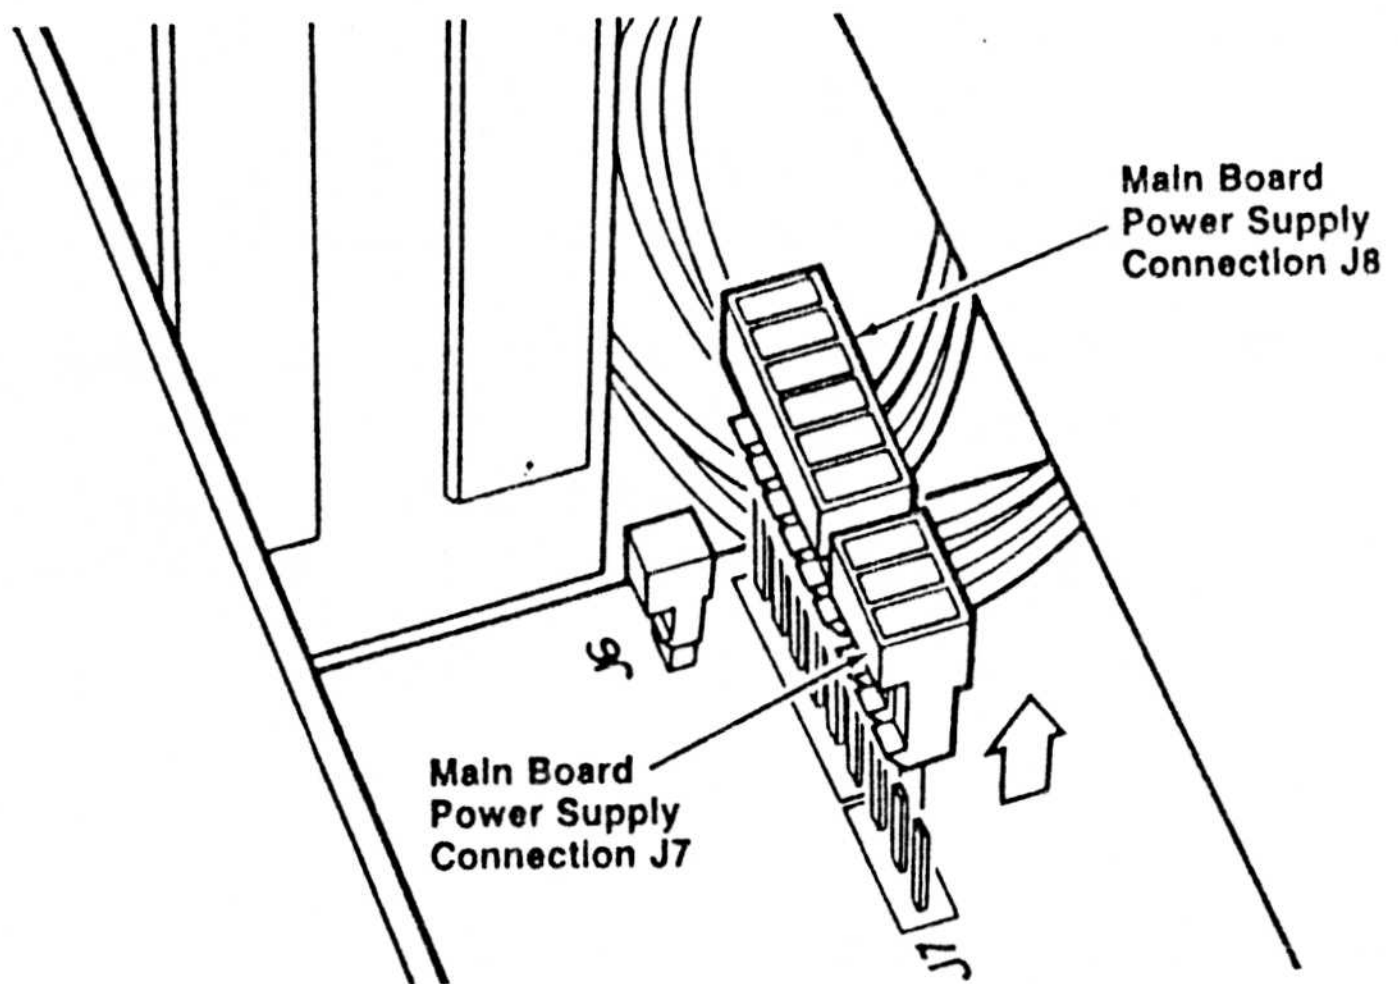

FIGURE 2: MAIN BOARD POWER SUPPLY CONNECTION
- STEP 7** Carefully reach down into the expansion board enclosure and unplug the DC power supply connectors from the main board. Refer to Figure 2.
- STEP 20** Reconnect the power supply connectors to the main board. Refer to Figure 2.
STEP 9 With one hand supporting the bottom panel, tilt the panel towards you and disconnect the two DC power supply connectors from the main board. Refer to Figure 2.
- STEP 16** Tilt the bottom panel back over the main board and reconnect the DC power supply connectors to the main board. Refer to Figure 2.